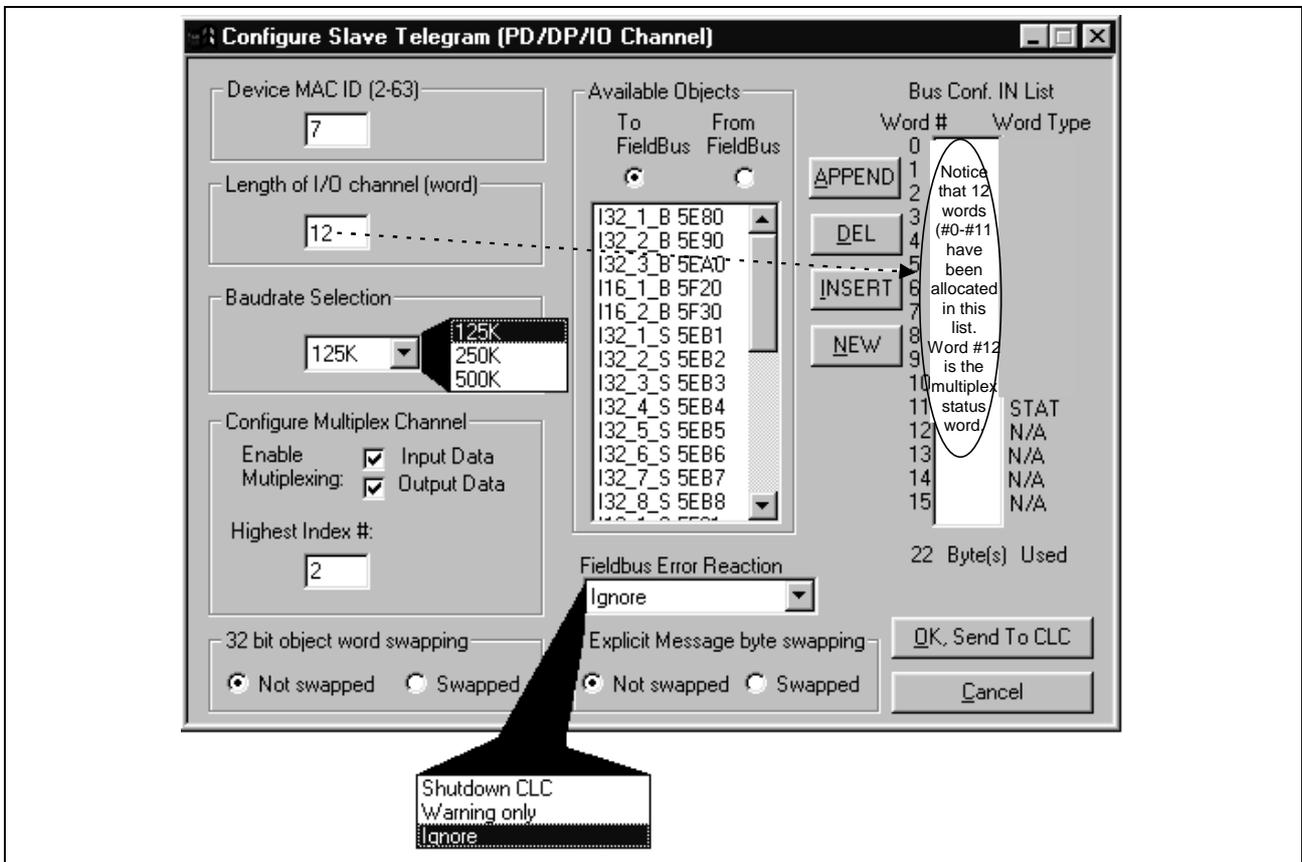

Figure 2-13: DeviceNet Configuration Screen
- Click the button labeled "Define/Config Slave Objects." The Fieldbus Mapper will try to detect any configuration data from the CLC-D. If you are configuring a new list, click on the "NEW" button to clear any current data in the selected list. The DeviceNet Configuration Screen is pictured in **Figure 2-13: DeviceNet Configuration Screen**.